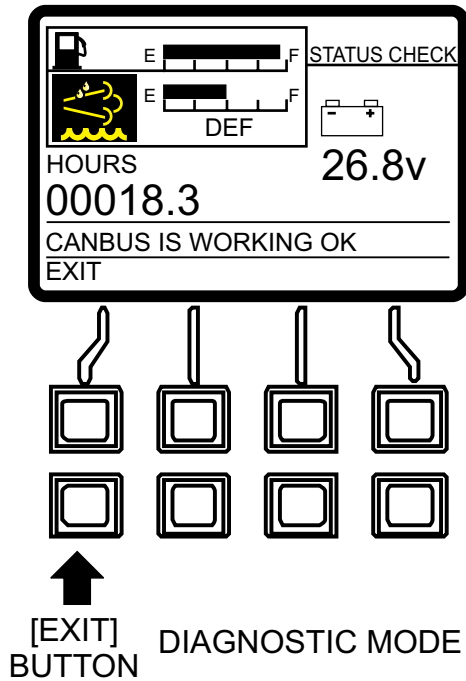

Figure 70. Status Check Screen (Diagnostic Mode)
2. Exit the Status Check Screen by pressing the [EXIT] button (Figure 70).